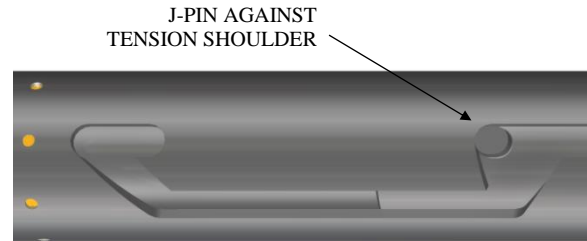

Fig. 8
- K-1.18) Position J-pin of J-pin bottom sub (23) on tension shoulder in J-slot of J-body (20) (Fig. 8).
- K-1.19) Align threaded holes in J-body (20) with pocket holes in rubber mandrel cap (19). For added leverage wrench on rubber retainer (15) as needed to properly align threaded holes.
- K-1.20) Screw shear screws (3) into J-body (20). Tighten until shear screws (3) contact rubber mandrel cap (19). Back shear screws (3) out 1/4 turn.
- K-1.21) Screw bottom nipple (28) into J-pin bottom sub (23).
- K-2) Unclamp spring cage (5) from vise and remove assembled tool.